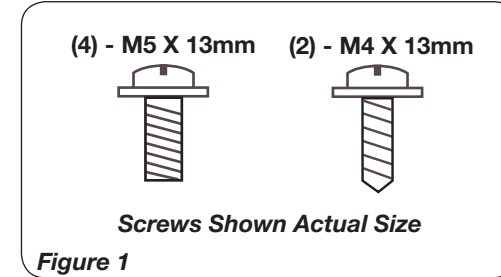

Figure 1
ASSEMBLY (Figures 1 through 5)
OPERATION (Figures 1 through 3)
- When the Heater is initially plugged in, there will be a "beep" and the **Power Light** will come on indicating that there is power to the unit. The **Power Light** will remain lit until the Heater is unplugged from the electrical outlet. (Figure 1)
- Upon turning the Heater on, the unit will be in HIGH heat (⏻) (1500 Watts) and will display the current room temperature. (Figure 1)